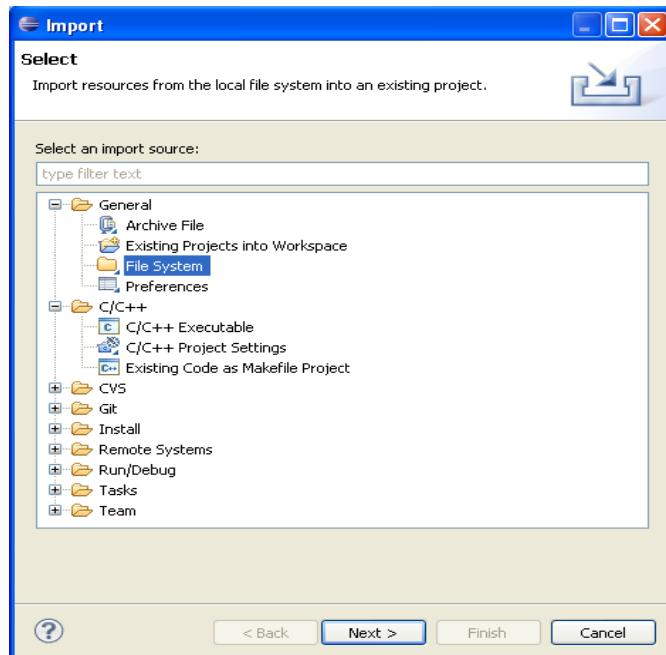

Figure 14.7 Import Window
- A window similar to that shown in figure 14.7 will crop up.